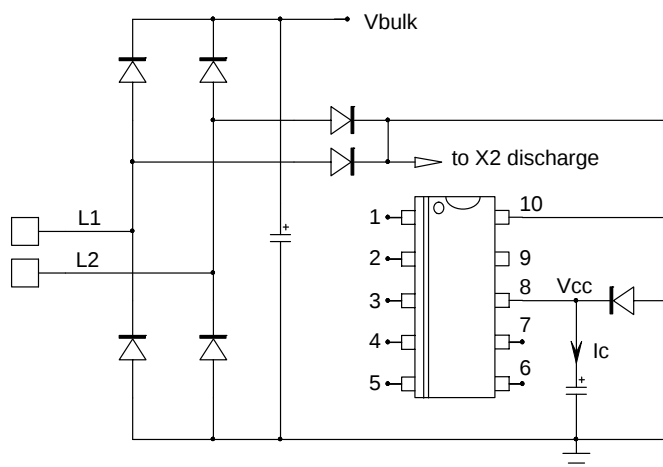

Figure 64. The startup resistor can be connected to the input mains for further power dissipation reduction
- The start-up sequence of the NCP1249 involves a high-voltage current source whose input is in pin 10. As this start-up source also performs line sensing for brown-out operation, it is recommended to wire it according to Figure 64 sketch.
The start-up sequence of the NCP1249 involves a high-voltage current source whose input is in pin 10. As this start-up source also performs line sensing for brown-out operation, it is recommended to wire it according to Figure 64 sketch.